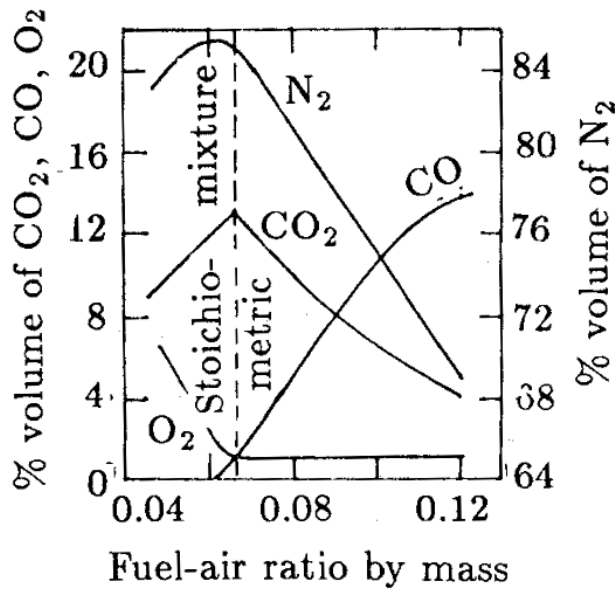

Fig. 5.7 The Comparison of Exhaust Gases for Various Fuel-Air Ratios
- Therefore, some fuel does not burn or burns partially to CO and the unused O₂ appears in the exhaust as shown in Fig.5.7.